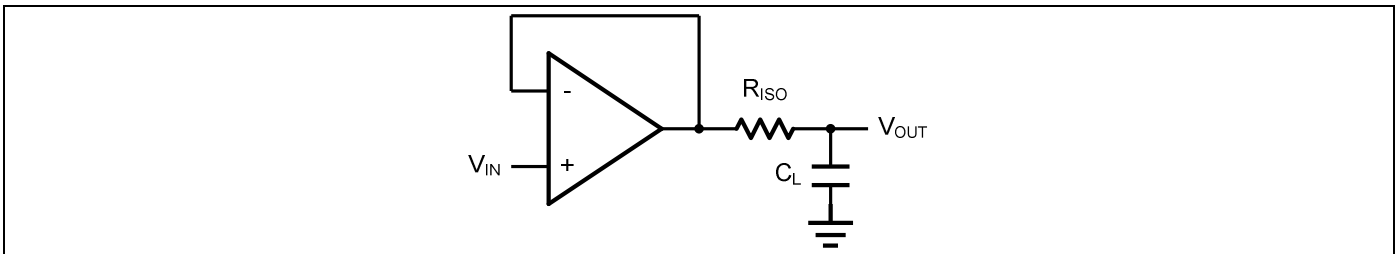
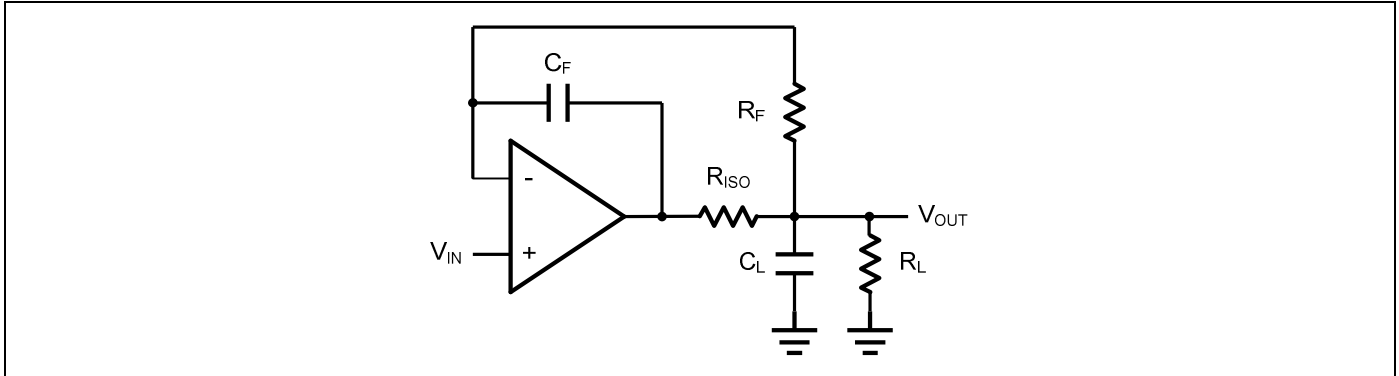

Figure 2. Indirectly Driving a Capacitive Load Using Isolation Resistor
Figure 3. Indirectly Driving a Capacitive Load with DC Accuracy
The LMV321 family is optimized for bandwidth and speed, not for driving capacitive loads. Output capacitance will create a pole in the amplifier's feedback path, leading to excessive peaking and potential oscillation. If dealing with load capacitance is a requirement of the application, the two strategies to consider are (1) using a small resistor in series with the amplifier's output and the load capacitance and (2) reducing the bandwidth of the amplifier's feedback loop by increasing the overall noise gain. Figure 2. shows a unity gain follower using the series resistor strategy. The resistor isolates the output from the capacitance and, more importantly, creates a zero in the feedback path that compensates for the pole created by the output capacitance.
The circuit in Figure 3 is an improvement to the one in Figure 2.  $R_F$  provides the DC accuracy by feed-forward the  $V_{IN}$  to  $R_L$ .  $C_F$